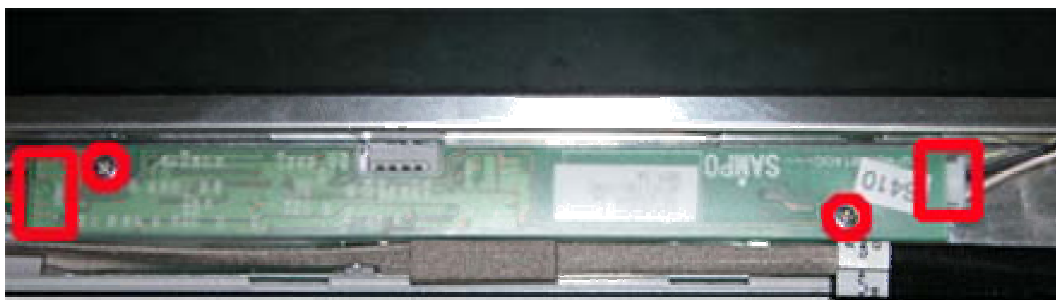

Fig. 17 Removing the Inverter Board
4. Release the inverter board by remove the screw and disconnect all connectors as shown in Fig. 17